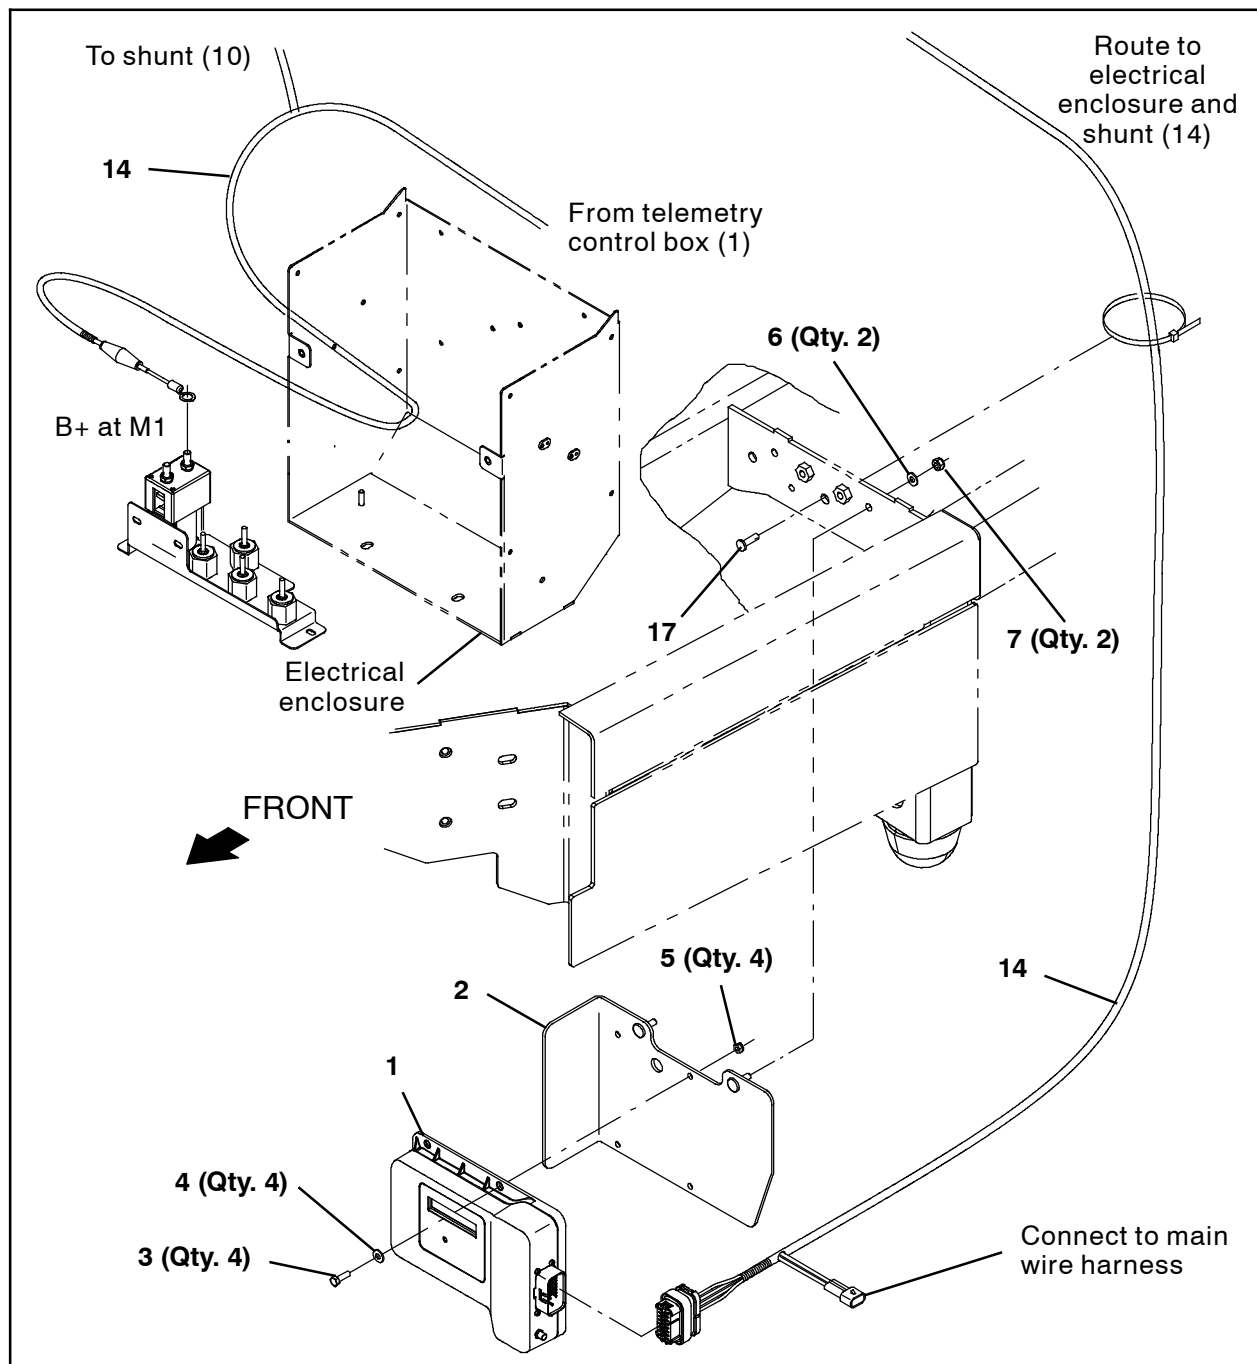

**FIG. 10**
8. Connect the other end of the black cable (16) connected to the shunt (10) to the insulated rubber standoff (machine negative) inside the electrical enclosure. (Fig. 10 / Fig. 6)
9. Route the battery cable (15) red cable into the electrical enclosure and connect the red cable to the B+ at M1 location on the 36 VDC contactor. (Fig. 10 / Fig. 6)